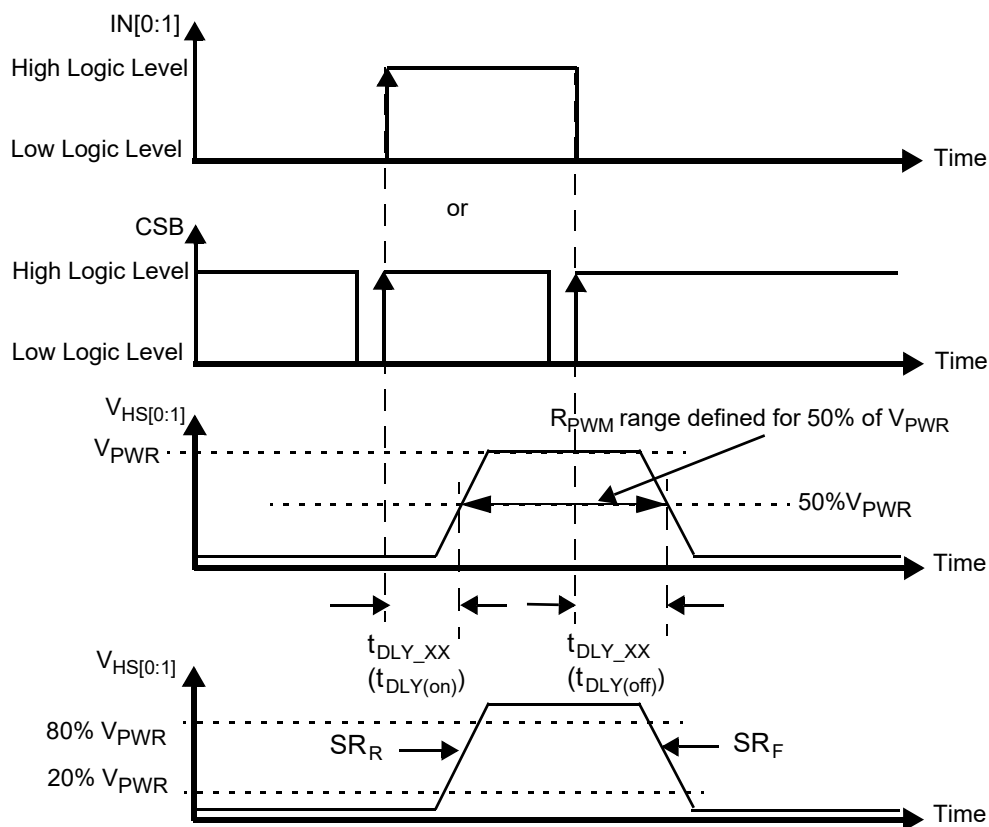
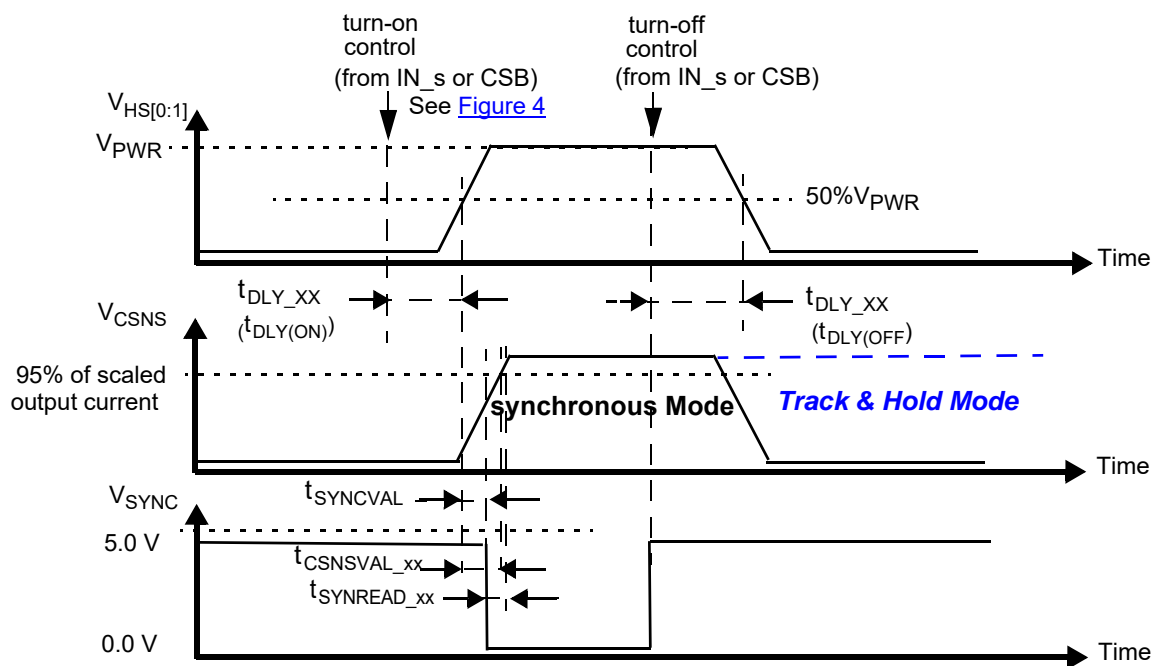

Figure 4. Output voltage slew rate and delay
Figure 9. Synchronous and Track & Hold current sensing modes: associated delay and settling times
27. Rising and Falling edge slew rates specified for a 20 % to 80 % voltage variation on a $10.0\text{ }\Omega$ resistive load (see Figure 4).
29. Time required to switch off the channel after detection of overtemperature (OT), overcurrent (OC), SC or UV error (time measured between start of the negative edge on the FSB pin and the falling edge on the output voltage until $V(HS[0:1]) = 50\%$ of V_{PWR}).
30. Settling time ($= t_{CSNSVAL_XX}$), SYNC output signal delay ($= t_{SYNVAL_XX}$) and Read-out delay ($= t_{SYNREAD_XX}$) are defined for a stepped load current ($100\text{ mA} < I(LOAD) < IOCLX_A_FOR_CSNS_RATIO_S = 1$, AND $300\text{ mA} < I(LOAD) < IOCLX_A_FOR_CSNS_RATIO_S = 0$). (see Figure 9 and Output current monitoring \(CSNS\)).
To synchronize current sensing with an external process, the SYNC signal can be connected to a digital input of an external MCU. SYNC is asserted logic low when the current sense signal is accurate and ready to be read. The current sense signal on the CSNS pin has the specified accuracy $t_{SYNREAD_XX}$ seconds after the falling edge on the SYNC pin (Figure 9) and remains valid until a rising edge is generated. The rising edge that is generated by the SYNC pin at the turn-OFF instant (internal or external) may also be used to implement synchronization with the external MCU. Parameter $t_{SYNCVAL_XX}$ is defined as the time between the instant at the middle of the output-voltage rising edge ($HS[0:1] = 50\%$ of V_{PWR}), and the instant at which the voltage on the SYNC-pin drops below 0.4 V (V_{SOL}). The SYNC pins of different devices can be connected together to save micro-controller input channels. However, in this configuration, the CSNS function of only one device should be active at a time. Otherwise, the MCU does not determine the origin of the SYNC signal. The SYNC pin is open drain and requires an external pull-up resistor to V_{DD} .